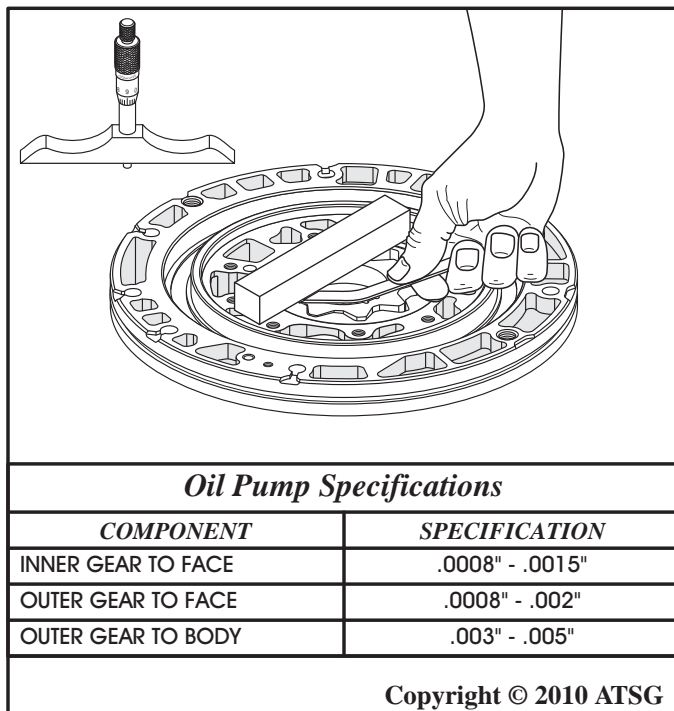

Figure 159
- Measure the gear to face clearance on both the inner and outer gerotor using a feeler gage or a depth micrometer, as shown in Figure 159.
Note: Pump specifications are in Figure 159.